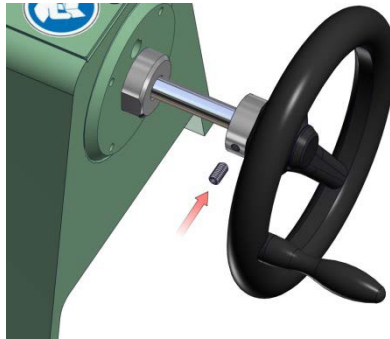

Figure 4.9.7
7. Install the Rotary Handle set screw on the Spindle shaft (Item 3, figure 7.5). In its proper location (threaded hole where the Rotary Disk Set Screw was previously). See Figure 4.9.7 below.